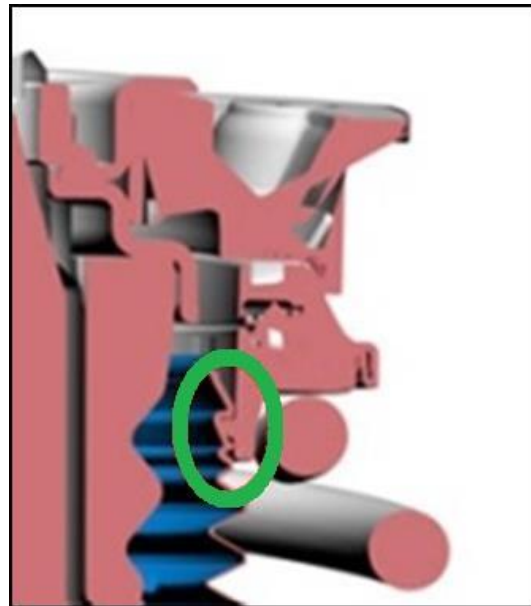

Figure 2. Proper installation of the front shock protective cover.
- Properly-installed front shock protective covers should turn easily in the deep-groove ball bearings (Figure 2).
2. Repair by repositioning the front shock protective covers so that they are installed correctly, as shown (Figure 2).